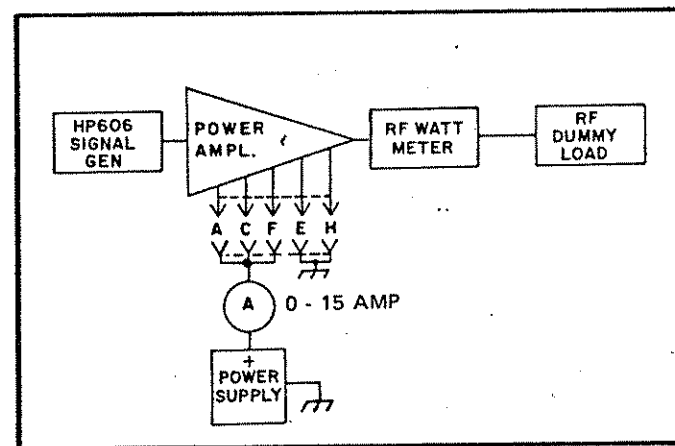

Figure 5.10 Amplifier Test Setup
2. For servicing the power amplifier, it is desirable to use an external source capable of 28 VDC at 12 amperes, continuously variable from 0 to 28 VDC. If such a power source is not available, the transceiver power supply can be used. A typical test setup is shown in Figure 5.10.
7. When transistor replacement is complete, test the power amplifier per test setup shown in Figure 5.10. Apply DC power and slowly increase signal generator drive until 100 watts is shown on the wattmeter. The ammeter should indicate approximately 8.5 amperes. Allow the amplifier output to remain at 100 watts for one or two minutes. Remove the signal drive. The ammeter should drop to 1 ampere or slightly greater. If the current drops to 2 amperes or higher and slowly decays toward the 1 ampere level, this means that one or both output transistors has not been properly seated to the heatsink. They should be removed, examined for foreign particles and replaced carefully. Repeat the above test to insure proper installation.